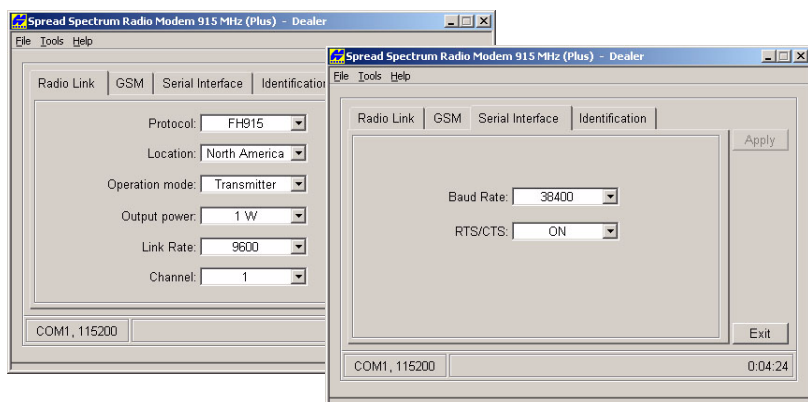

Figure 3-3. Apply Radio Link and Baud Rate Parameters
3. On the *Radio Link* tab, set the following parameters, and click **Apply** (Figure 3-3 on page 3-10).
4. On the *Serial Interface* tab, select the following baud rate parameters and click **Apply** (Figure 3-3).